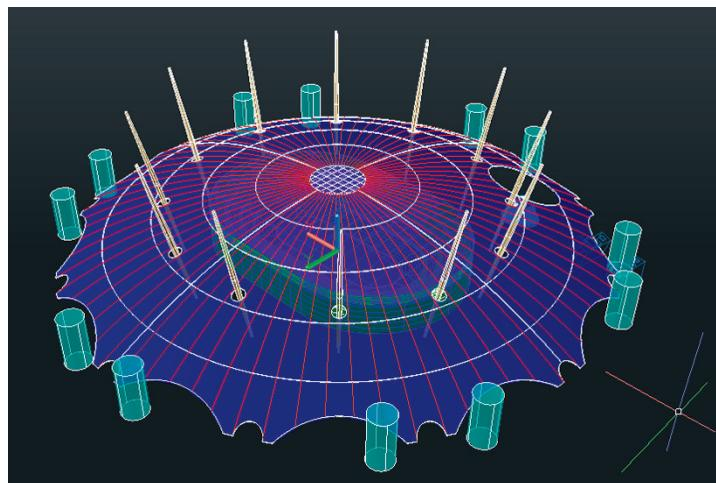

FIGURE 16.23 Perspective overview of the 3D model
3. Click the upper-left corner of the left face of the ViewCube to switch to the NW Isometric view. The model is still in perspective even after switching out of the Camera2 view (see Figure 16.23).